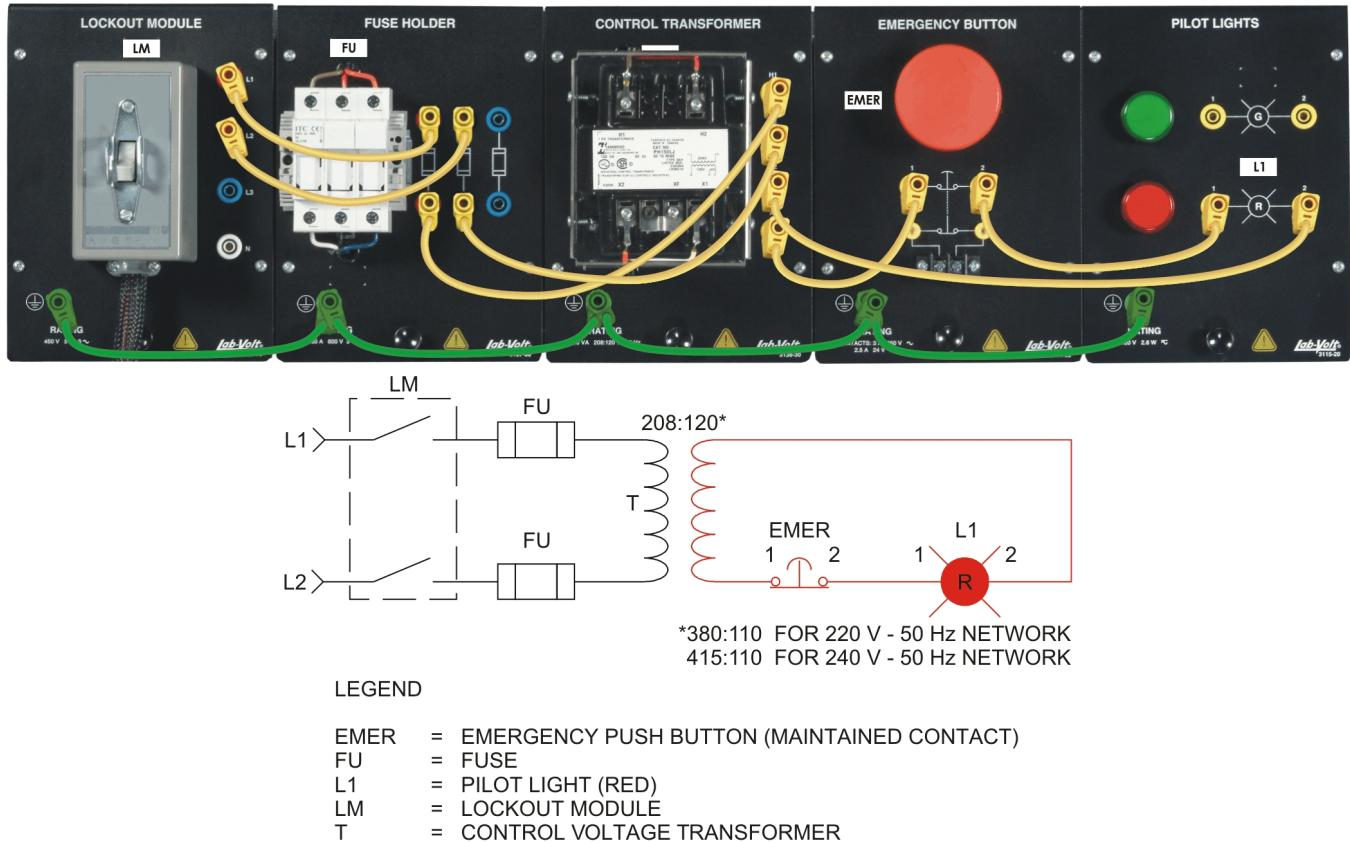

Figure 1-3. Basic circuit with the Lockout Module.
- 6. Connect the circuit shown in Figure 1-3.